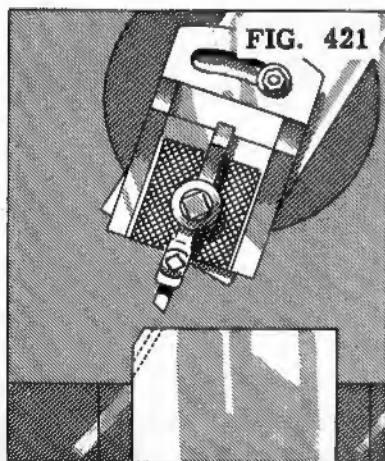

FIG. 421
9. Move the work toward the tool (Fig. 421) for each successive cut.